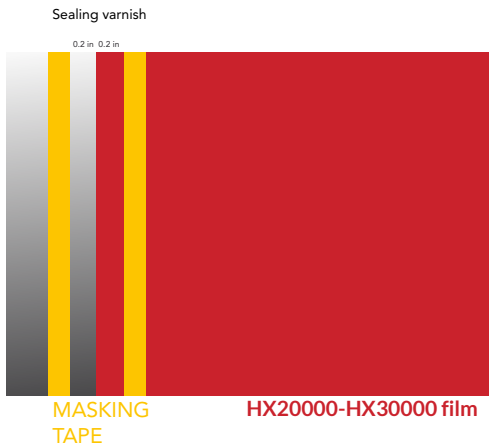

Figure 43
- 1 to the HX20000-HX30000 film at 5 mm (0.2 in.) from its edge. (FIG. 43)